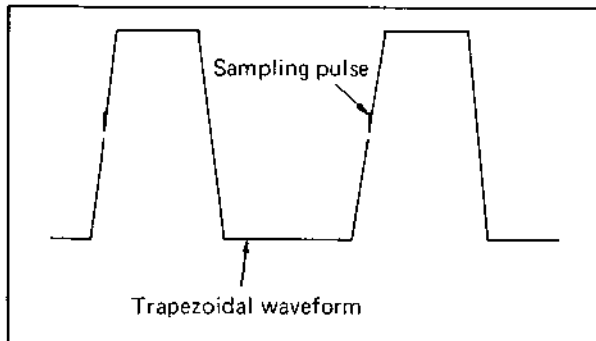

Fig. 5-3 Capstan Sampling Pulse
2. In succession, set for the Speed and Normal playback and the SP Recording modes and confirm that the sampling pulse is positioned at about the center of the sloping portion of the trapezoidal waveform (see Fig. 5-3).